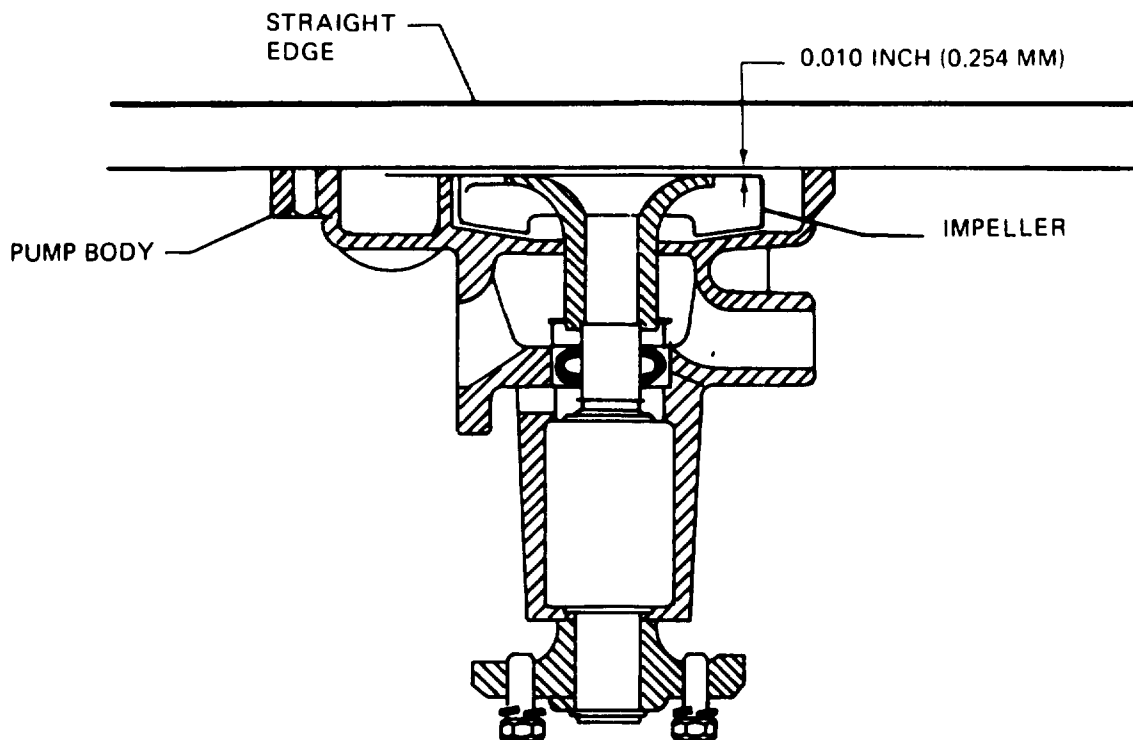

Figure 3-29. Checking Impeller to Cover Plate Clearance
- (2) Press shaft, bearing and flinger assembly (9) into pump body and install retaining ring (2).
- (3) Support pump on outer end of shaft and press impeller (10) onto shaft, bearing and flinger assembly to obtain 0.010 inch clearance between impeller and cover plate (figure 3-29).
- (4) Install gasket (8) and cover plate (7) and secure with screws (3). Install bracket (6) with screw (4) and washer (5).
- (5) Press pulley hub (1) onto shaft (9) until shaft is flush with front of pulley.
- (6) Install water inlet housing (15) and new gasket (16) with screws (13) and lockwasher (14).